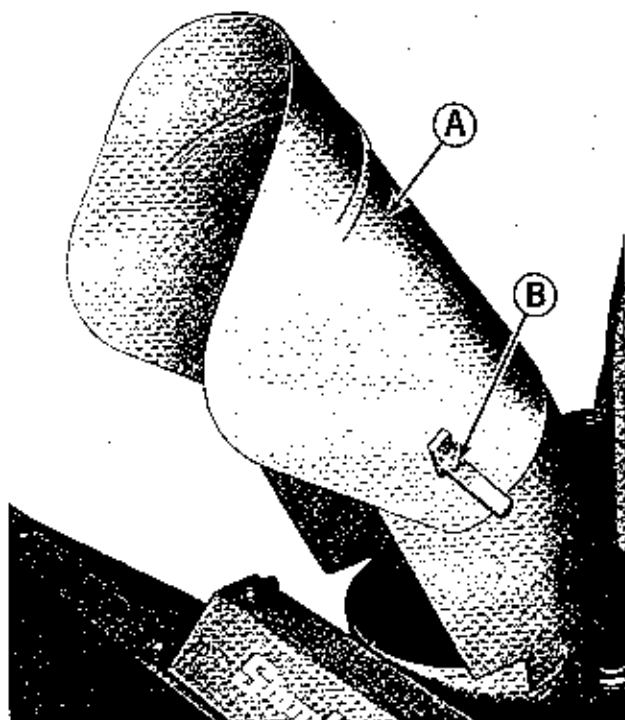

Figure 10. Snow thrower spout and deflector.
See figure 10. The chute deflector (A) can be adjusted by loosening the wing nut (B) and moving the deflector up or down. Be sure to tighten both wing nuts securely after positioning the deflector. The chute deflector position supplements the engine speed control to control throwing distance. The highest position provides the greatest throwing distance. Most snow throwing can be done with the deflector all the way up, by using the engine speed lever to control the throwing distance. Hold the rear of the deflector down while tightening the wing nut to make sure all the snow goes out the chute.